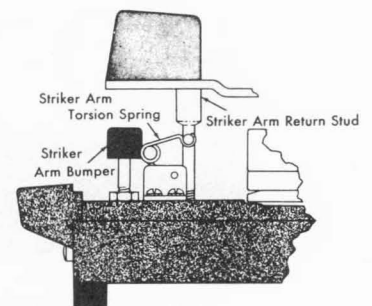

Figure 74. Program Tape Punch
2. Striker-arm torsion spring for sufficient tension to restore the parts (Figure 74).